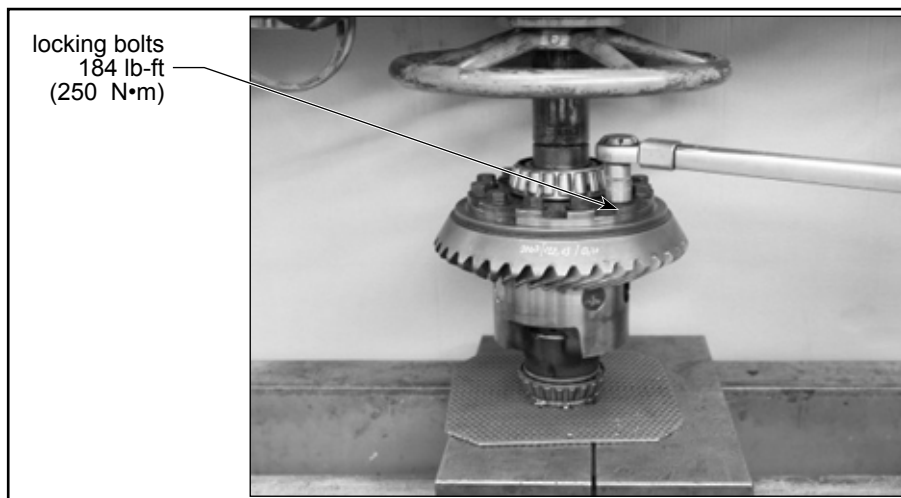

Figure 19 - Mounting of Crown Wheel on Differential Carrier
- 2.47. Mount two locating pins on the crown wheel, insert the differential carrier and bring it into contact position by means of the press. See Figure 19.
- 2.48. Fix the differential carrier onto the crown wheel by means of a press. Place and tighten the retained locking bolts. Secure the locking bolts with Loctite type-no.2701 (or equivalent). See Figure 19.